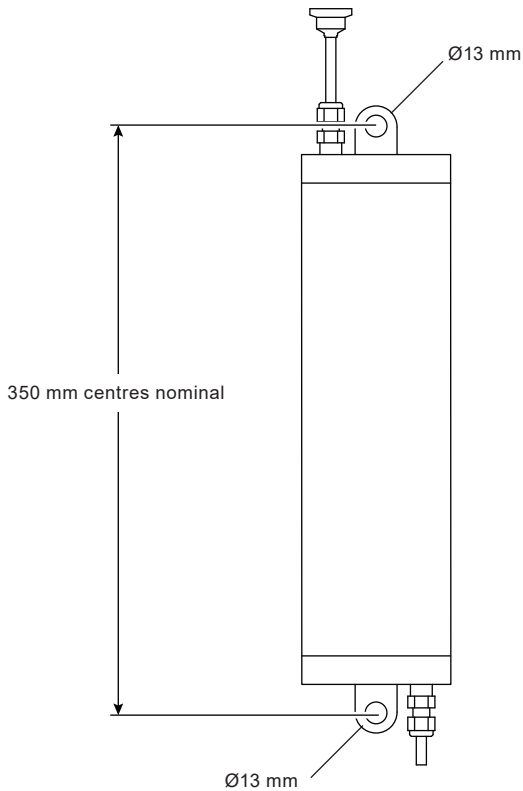

Fig. 2
- The sample cooler must be mounted vertically, using the pre-drilled top and bottom mounting brackets (see Figure 2).